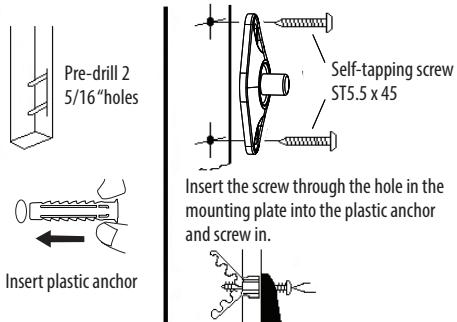

Figure 8
2. Drill holes in the drywall using a 5/16 "drill bit (see Figure 8).
3. Once the holes have been drilled, insert the plastic anchors. Make sure the plastic anchor is flush with the wall or ceiling surface (see figure 8).
4. Then attach the mounting plate to the wall with the ST5.5 x 45 self-tapping screws (see figure 8).